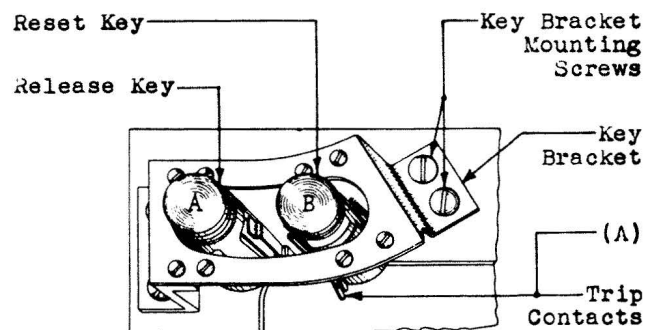

Fig. 23 - Release and Reset Keys
2.25 Contact Pressure - Fig. 23 (A): With the trip contact springs in their normal position, the pressure at the contacts shall be: